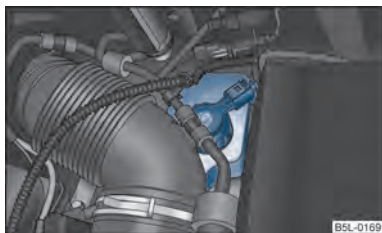

Fig. 156 Engine compartment: Brake fluid reservoir
- Inspect the brake fluid level in the reservoir ⇒ fig. 156. The level must be between the "MIN" and "MAX" markings.